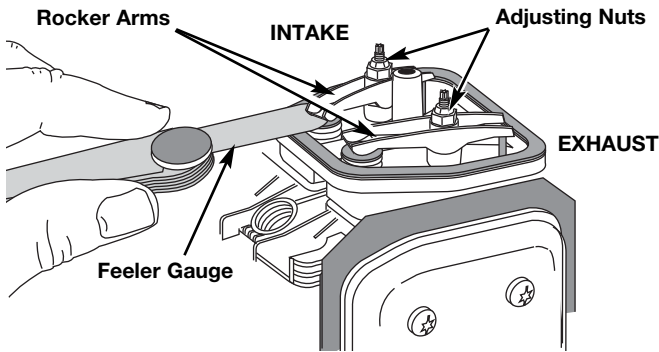

Fig. 36
- The piston is at the top of its travel. Look in the spark plug hole to view the piston (Fig. 36)
7. Slide the feeler gauge between the rocker arm and the top of each valve stem. Measure the clearance between the valve stem and rocker arm (Fig. 36 & 37). Measure both the intake and exhaust valves.
The recommended clearance for both intake and exhaust is .003 – .006 in. (.076 – 0.152 mm). Use a standard automotive .005 in. (0.127 mm) feeler gauge. The feeler gauge should slide between the rocker arm and valve stem with a slight amount of resistance, without binding. See Figures 36 and 37.